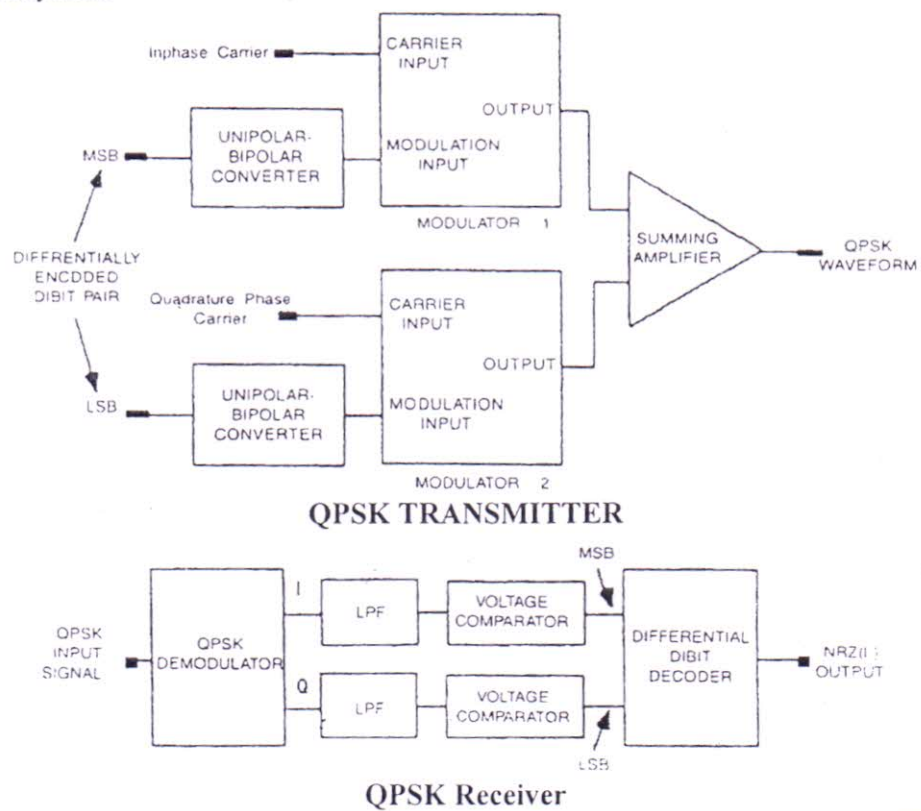

Fig. 43
At the receiver, once again there are four possibilities the two outputs may be interchanged or inverted as mentioned above. But now the absolute levels of the received data are no longer important. The receiver simply has to tell the two bit code change. As a result phase ambiguity is no longer a problem. To derive NRZ (L) waveform from the encoded pair a differential dibit decoder is used at receiver. Its output is serially transmitted. The fig 43 shows the functional block diagrams of the QPSK system.